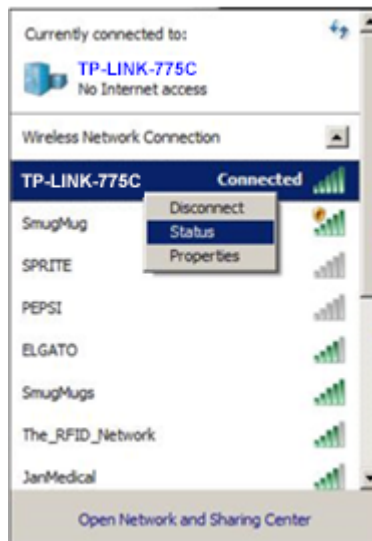

Figure 72: Current Connectivity Screen
7. The *Connection Status* dialog-box displays. (Figure 72)